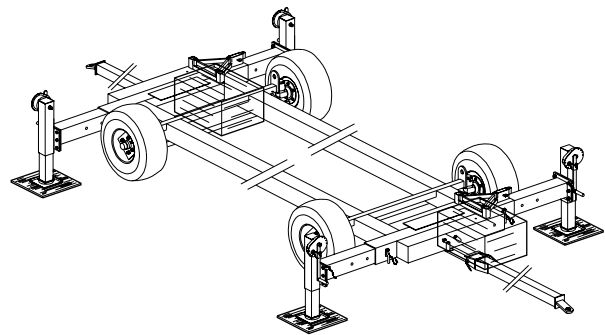

Fig.6-2 Ground support chassis
- The ground support must be flat and centrally loaded with a minimum ground support of $400 \times 400 \text{ mm}$ / $15.7 \times 15.7 \text{ in}$. See fig. 6-2.
- The platform must be supported with suitable ground support placed under the extended outriggers on the chassis (see fig.6-2). If the height of the mast exceeds 20 metres / 65.6 ft, ground support must also be placed under the mast.